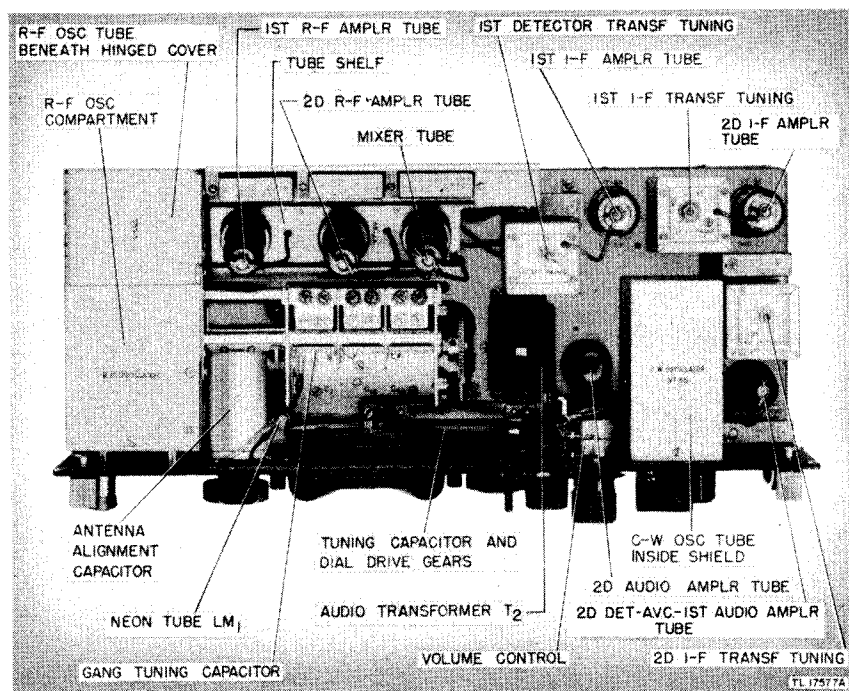

Figure 73. Receiver chassis, top view, showing alignment points.
*b.* PROCEDURE. (1) Attach the signal generator ground lead to the receiver chassis and connect the dummy antenna (300-ohm resistor) between the grid cap of the second i-f amplifier tube and the output lead from the signal generator.
(2) Connect the output meter to the PHONES 2D AUDIO jack and adjust the signal generator output (modulated) to give a small deflection on the output meter, using the smallest scale possible.
(3) Adjust the second i-f transformer adjustment screws located on the top and bottom of the transformer (figs. 73 and 74) for a maximum output indication. Reduce the signal generator output whenever necessary during alignment to avoid overloading the receiver.